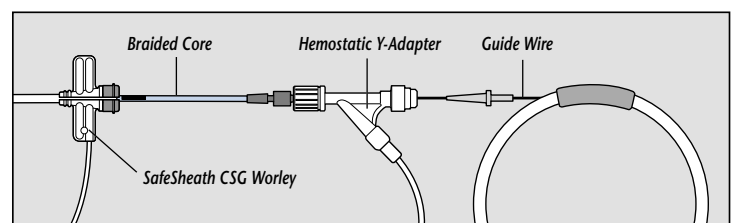

Figure 7 Guide Wire Inserted into the hemostatic valve of the Y Adapter.
Step 7 Insert the guide wire through the hemostatic valve of the Y adapter into the braided core (Figure 7) and advance the wire under fluoroscopy until the wire exits the tip of the core.